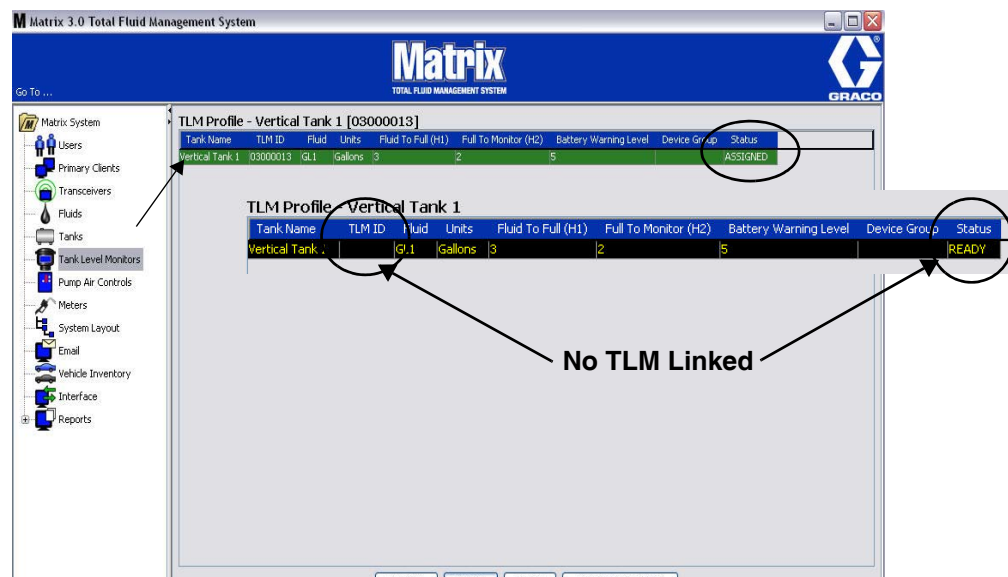

FIG. 122
3. When all fields have been completed, click the OK button on the bottom of the Add TLM Profile Screen. The profile is added to the top of the list. “Assigned” in the Status column confirms the profile is complete. “Ready” will appear in the Status column when the profile is incomplete. Notice in FIG. 122 the TLM ID field is blank indicating a TLM is not linked to Matrix system.